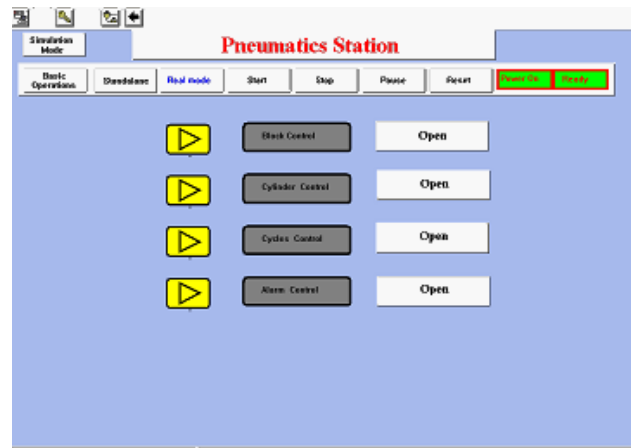

Figure 161: Pneumatics Station
8. Click **Restart**. Pneumatics Station window (shown in Figure 161: Pneumatics Station) is displayed in the background. Click **Close** to close the Vuniq Application Manager window.